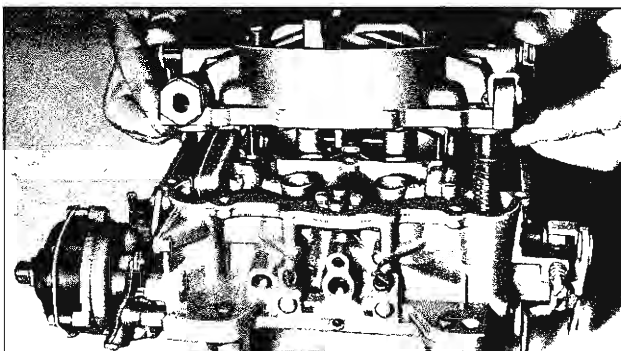

Fig. 72—Removing Bowl Cover
5. Remove fuel inlet fitting, gasket and strainer. Remove bowl cover screws and carefully lift cover from Body Section (fig. 72) to avoid damaging floats or pump plunger.